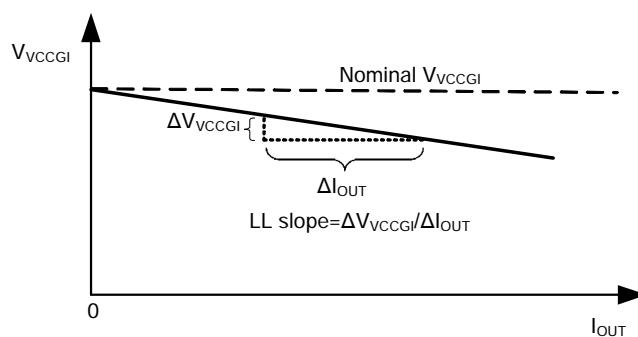

Figure 2.  $V_{VCCGI}$  Curve with Load Line Function
APW8858 implements a load line function in VCCGI voltage regulator. The load line function virtually mimics a load line behavior as depicted as the Figure 2. In order to achieve load line function, the APW8858 uses an RC network, R9 and C45, to sense VCCGI Inductor's current. The RC value should meet the following equation (1) to acquire high current sensing accuracy and to minimize voltage under-shoot or over-shoot of VCCGI during load steps.